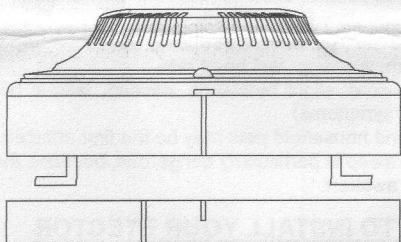

Figure 3 Alignment of detector head and its base
- (1) All the wires in the base compartment should be flattened and are not touched to any connectors to ensure that the detector head be smoothly fastened to the base.
- (2) When using the jump wires to check the connectivity for each gas detector in the circuit loop (e.g. connecting point 2 and point 3 with a jump wire as shown in Figure 3), be sure to remove all the jump wires before attaching the detector head onto the base.
- (3) Be sure that the components used in the circuit loop as shown in Figure 3 should be coupled up with those components used in the transceiver circuitry of the control panel.
- (4) The base is allowed to be installed within an available wiring box including octagon box (3", 3.5", or 4"), circular box (3") and rectangular box (4" long), without using any other additional mechanical adapters.